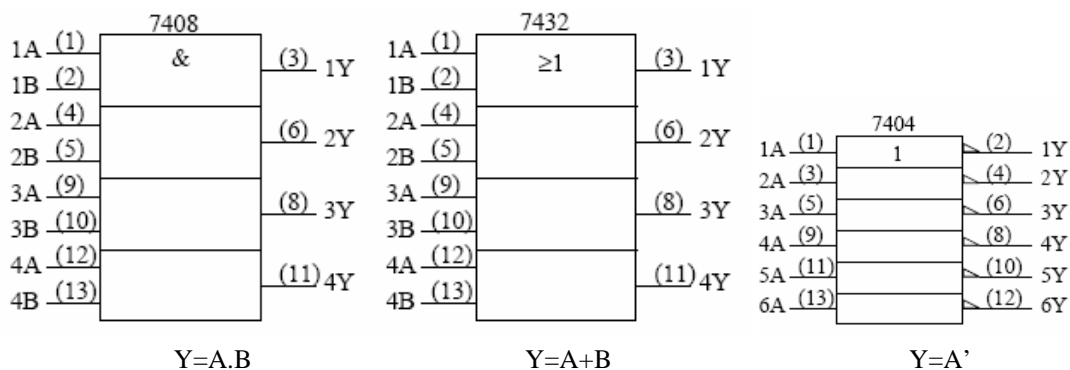
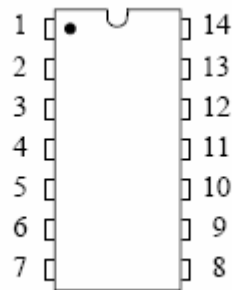

Figure 1: Standard Logic Symbols
Figure 2: Identifying Pin 1
Each logic gate is actually implemented in part of an integrated circuit (IC), with each gate made using several transistors. For the most part we do not need to concern ourselves with the actual circuitry inside each gate, only the interconnections between individual gates. Usually each IC package contains several individual gates. The 7408 chip implements 4 two input AND gates and is commonly referred to as a “Quad two input AND” chip. Similarly the 7432 chip is a “Quad 2 input OR” chip while the 7404 chip is a “Hex Inverter” since it contains 6 inverters. The IEEE standard logic symbols for each of these devices are shown in Figure 1.
Each of the chips in Figure 1 is available in 14 pin Dual-In-Line packages or DIPs. In a popular logic family called TTL (Transistor-Transistor Logic), the low logic level is assigned to 0V and the high logic level is assigned to 5V. Each IC or chip has an ID number that can be referenced in IC Data Book. From the book, you can get the pin configuration of that chip. The pin numbers assigned to each logic signal are shown inside brackets in the figure. The pins are numbered as shown in Figure 2. Pin 1 is usually identified as the pin to the left of an indentation or cutout in one end of the chip